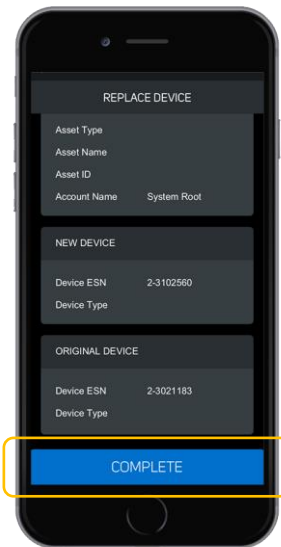

FIG. 4
6) At the bottom of this screen, to finish the **Replace Tracking Device** process, tap “Complete” (FIG. 4).